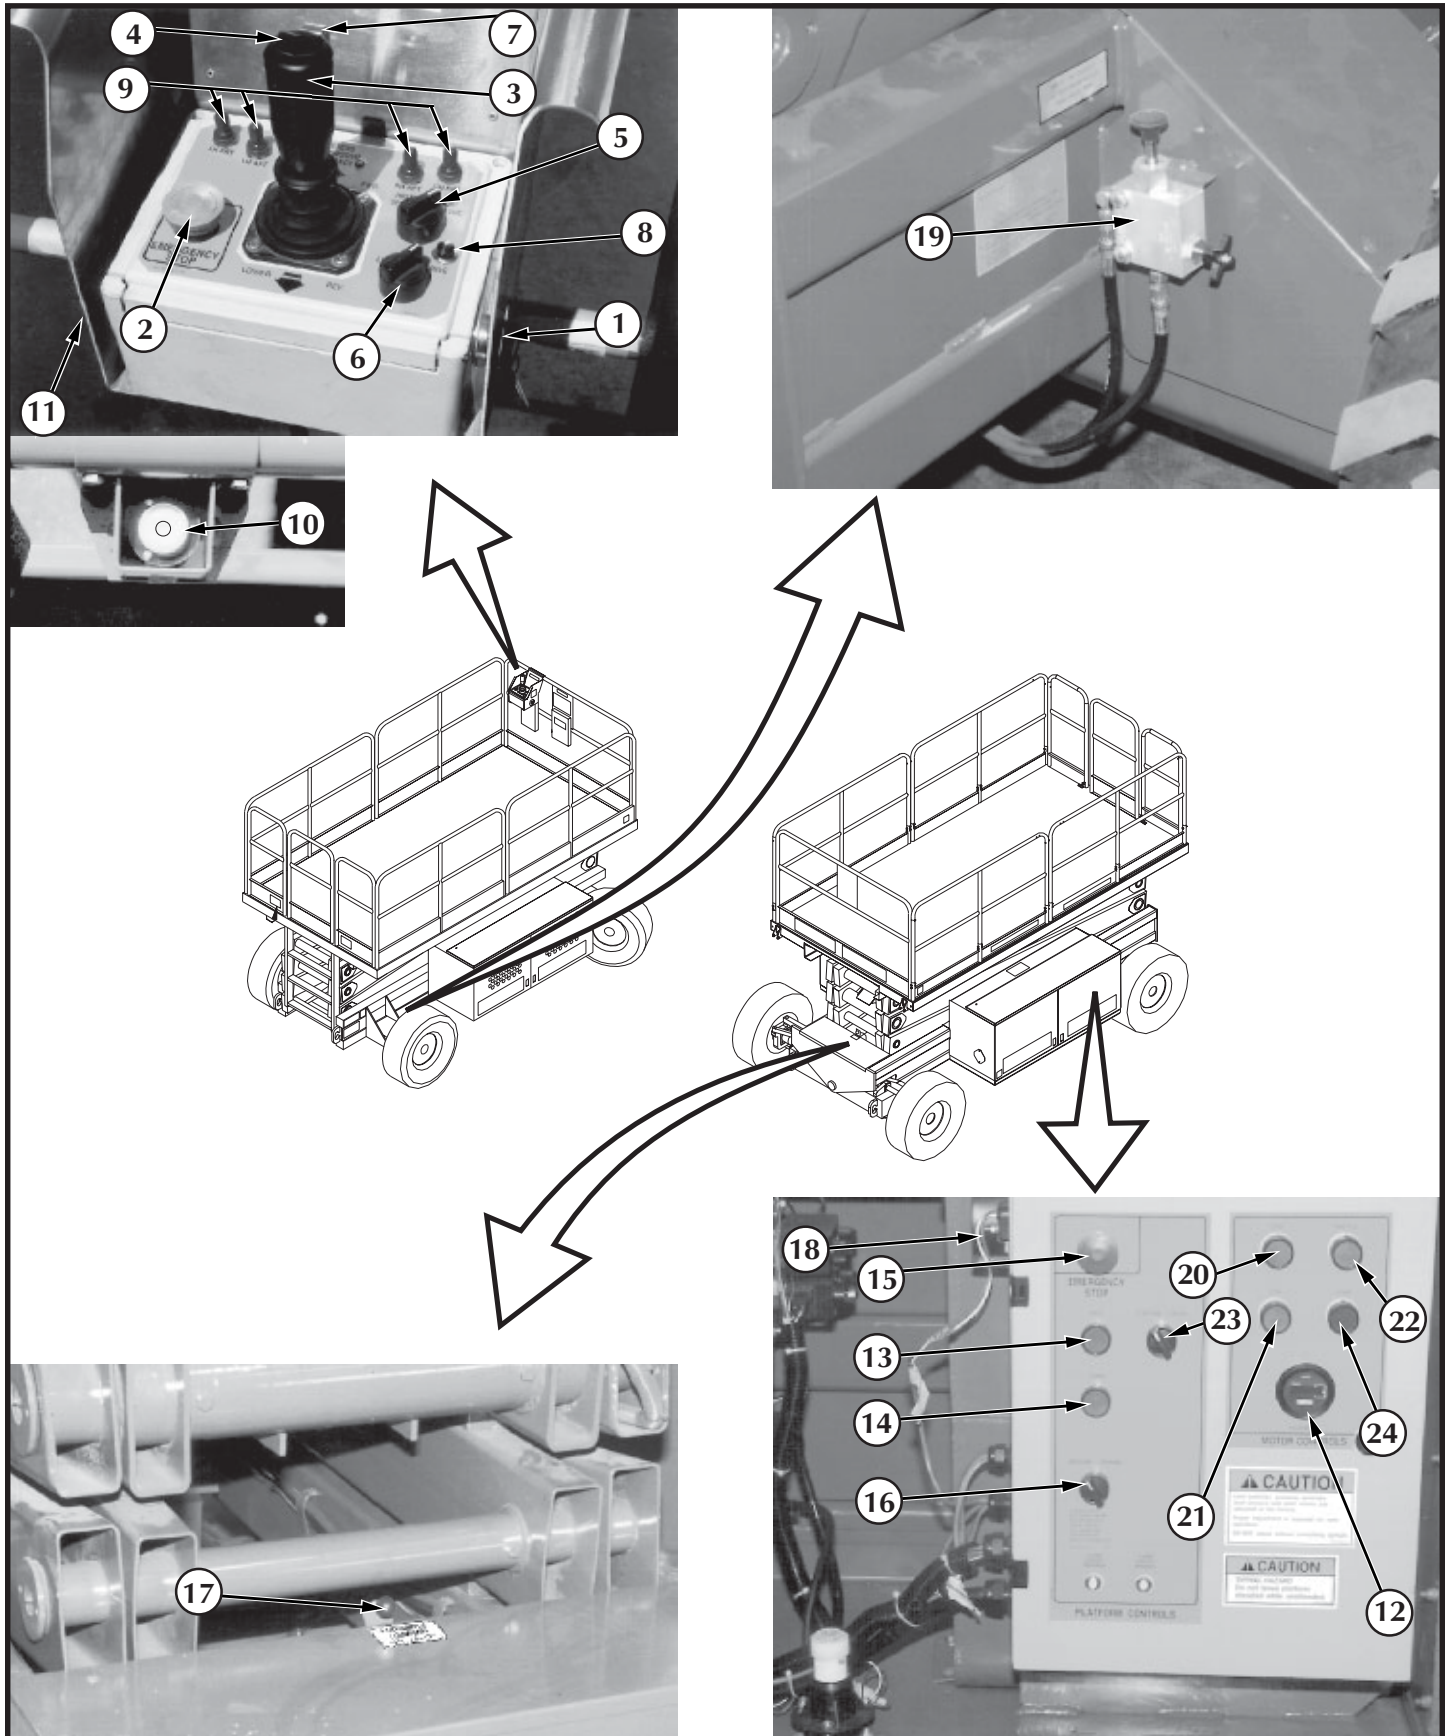

Figure 3-1: Controls and Indicators
The controls and indicators for operation of the LX 31/41 Work Platform are shown in Figure 3-1. The name and function of each control and indicator are listed in Table 3-1. The index numbers in Figure 3-1 correspond to the index numbers in Table 3-1. The operator shall know the location of each control and indicator and have a thorough knowledge of the function and operation of each before attempting to operate the unit.
9. Place chassis and platform emergency stop switches in the ON position (Figure 3-1) by pulling the buttons out.
10. Verify platform/chassis switch is on **PLATFORM** (Figure 3-1).
The emergency lowering valve is located at the front of the machine at the base of the scissor assembly, (Figure 3-1).
1. With engine running turn the fuel selector switch (Figure 3-1) to the center position.
3.5 Parking Brake Release (Figure 3-1)